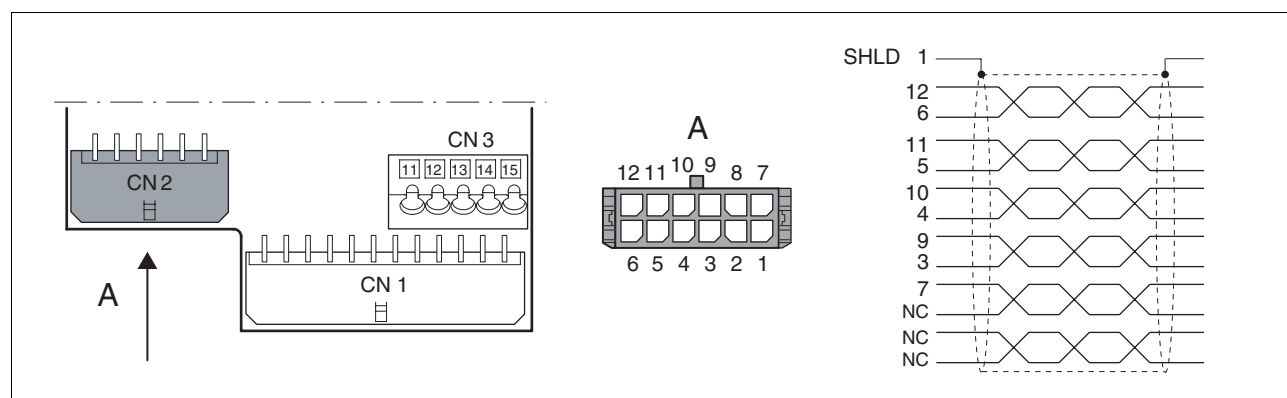

Figure 4.18 Wiring diagram of rotation monitoring
- ▶ (1) Remove the cable sheath to length A.
- ▶ (2) Slide the shield braiding back over the cable sheath. The shield braided filler wire is required as the connection.
- ▶ (3) The blue and red braided wires are not required and can be cut off. Isolate the shield braided wire with shrink wrap.
- ▶ (4) Crimp the plug contacts on the remaining braided wires and on the insulated shield braided wire. Insulate the shield braiding with shrink wrap. Plug the crimp contacts into the connector shell; for the pin assignment see Figure 4.18.
- ▶ (5) Sheath the cable to length C on the position shown, the cable is fastened there at the EMC plate with a clamp (shield-ground connection).